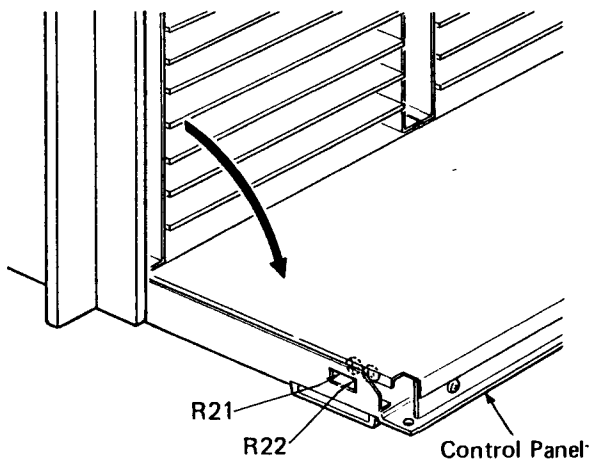

FIG. 18. "VARI" SPEED ADJUSTMENTS
3. Locate R21 and R22 on the DISPLAY PC Board (refer to Fig. 18) and set them to mechanical center.